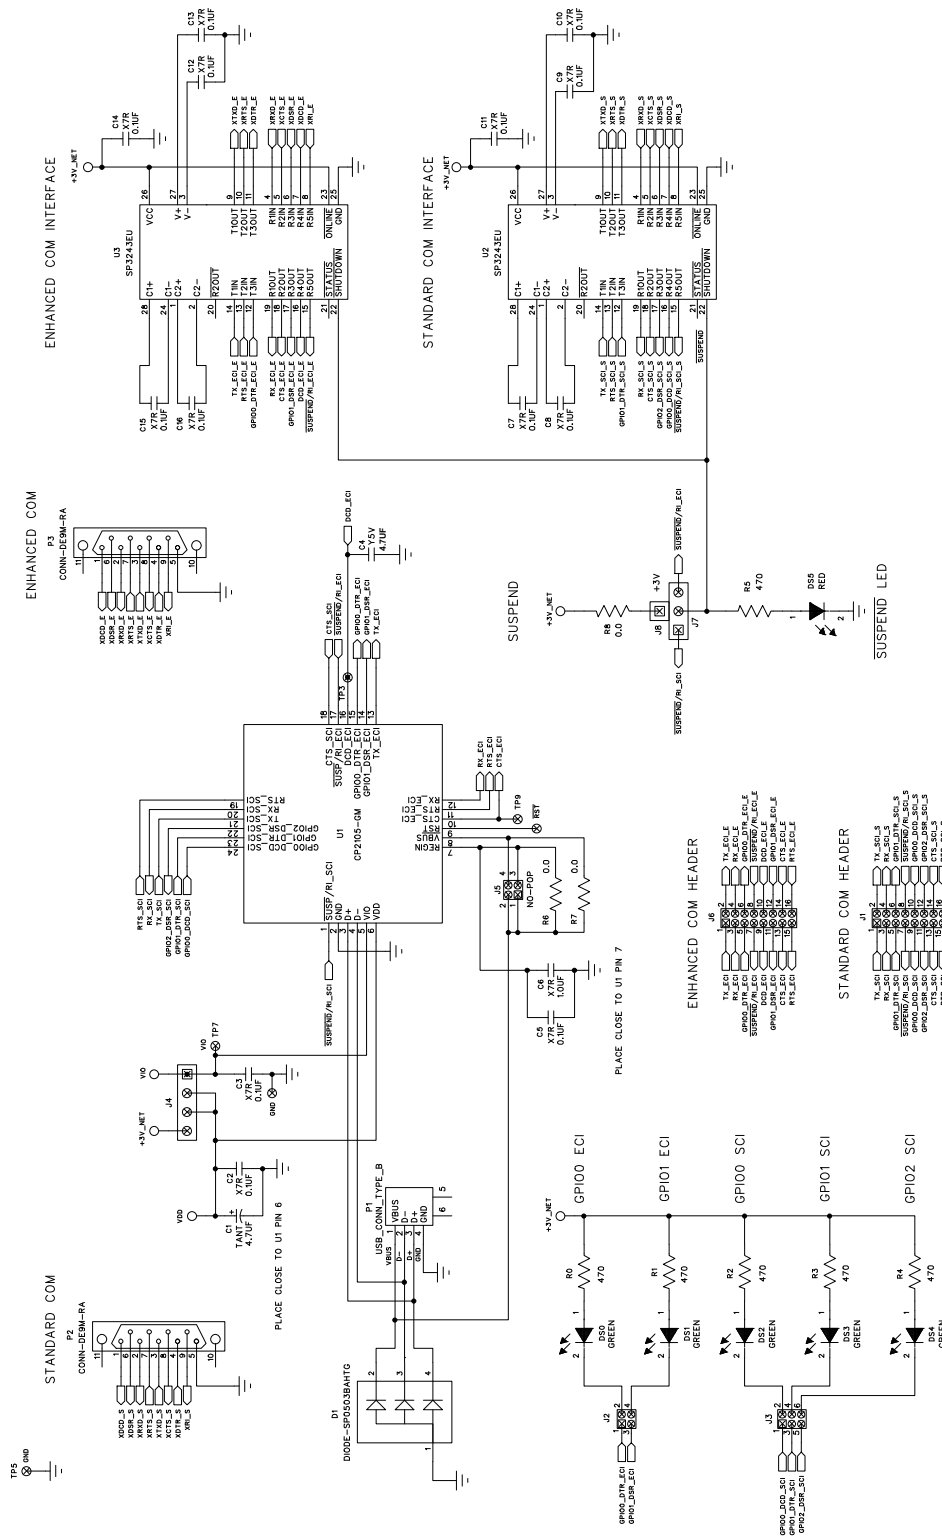

Figure 4. CP2105 Evaluation Board Schematic
- Updated C4 value in Figure 4.